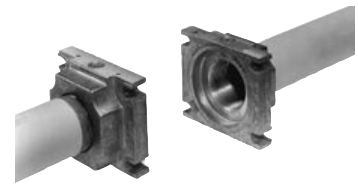

Fig. 6
1. Mount flange onto tube lines. Use appropriate sealing agent (see Fig. 6)